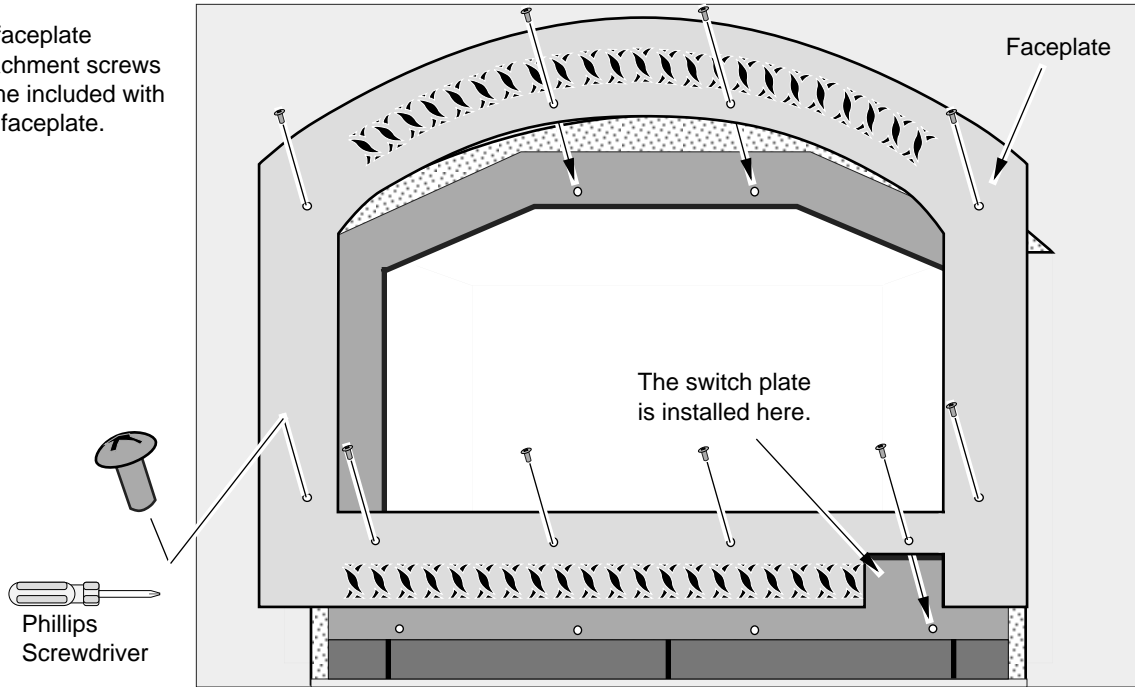

Figure 34
- The faceplate is packaged with faceplate attachment screws. Use a phillips screwdriver to attach the faceplate (see Figure 34).